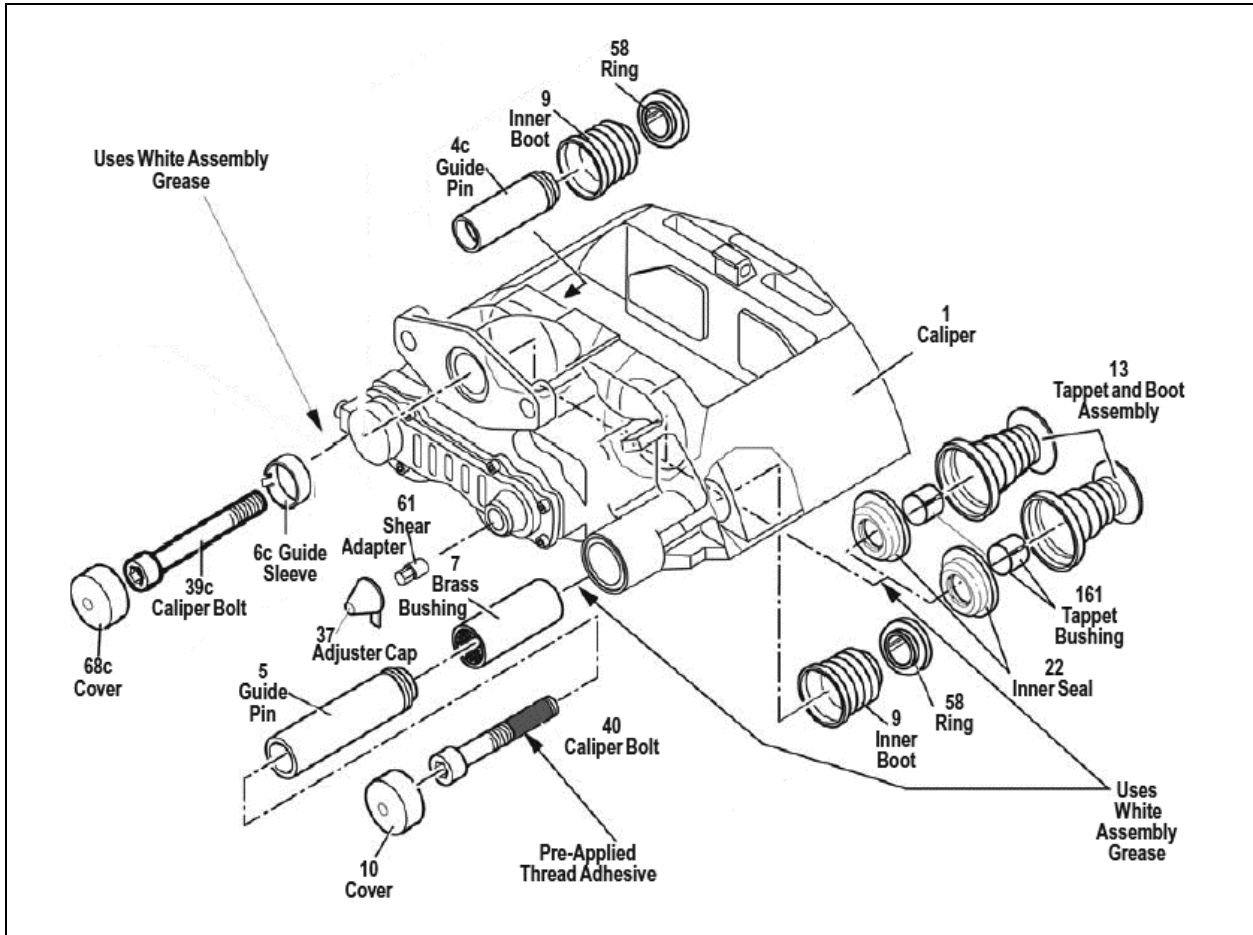

FIGURE 22: BRAKE COMPONENTS
Additionally, inspect the tappet and boot assemblies (13, Figure 22), the adjuster cap (37) and the sealing elements (9, 58) for correct fitting and condition as well as the caliper bearing in the area of the rubber bush/guide sleeve (6) (see *KB Manual*).